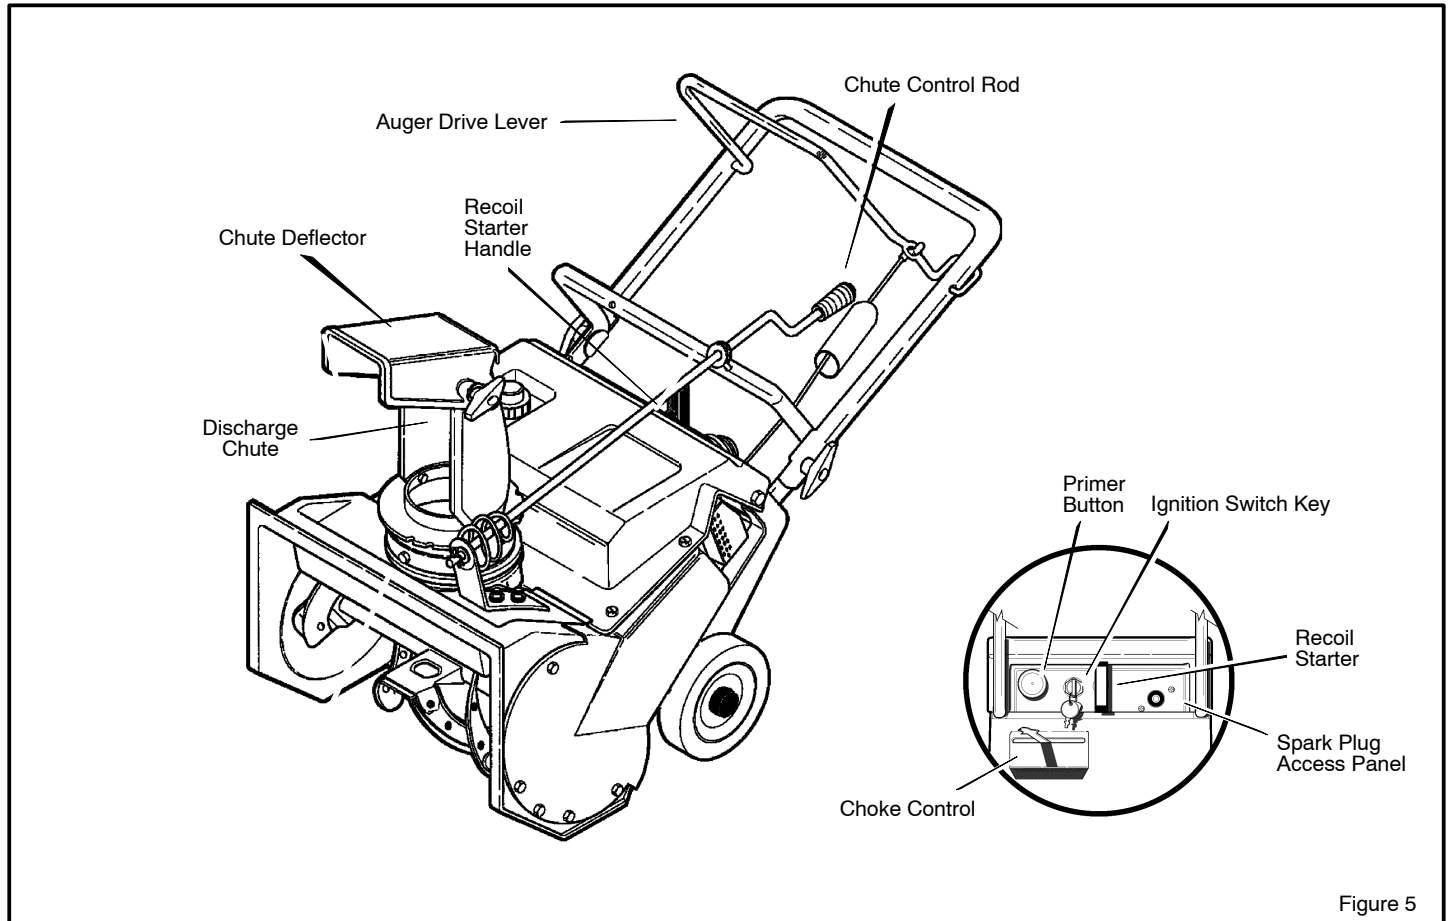

Figure 5
1. Turn the **chute control rod** to set the direction of the snow throwing. (See Figure 5)